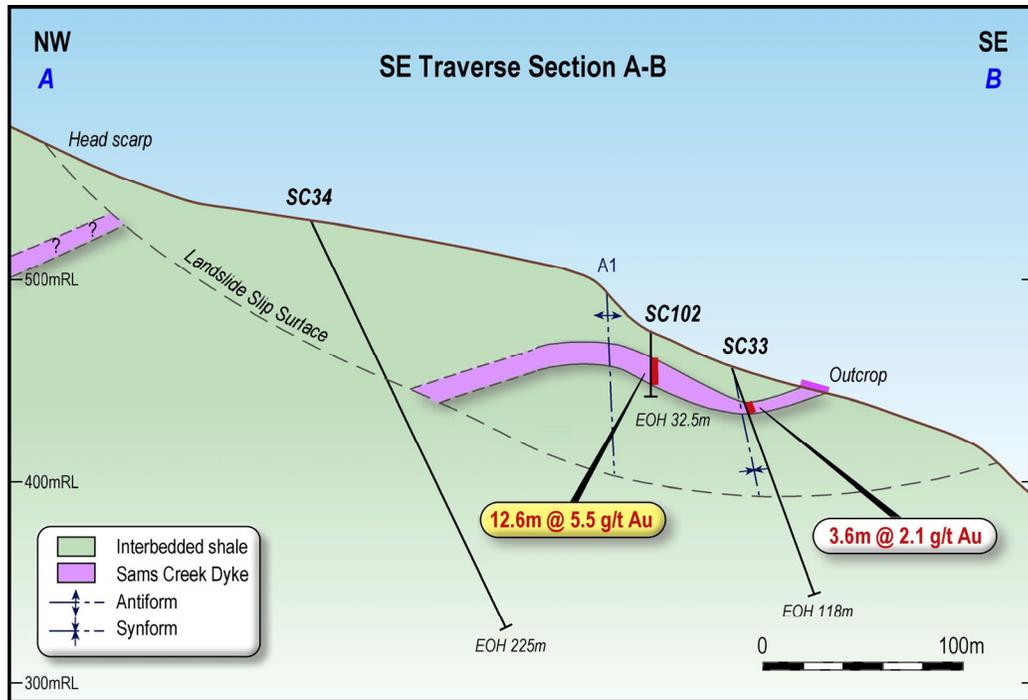

Figure 3: Cross Section C-D through SCDDH102
Results have now been received for the first three (3) holes (SCDDH100-SCDDH102) drilled at the SE Traverse prospect. Shallow, high grade gold results have been returned from all three holes including **12.6m at 5.53g/t Au from 13.4m in SCDDH102. This intersection includes 2.6m at 20.4g/t Au from 13.4m including 1m @ 38.8g/t from 14m (Figure 3 and 4)**. All significant results are tabulated below (Table 1). Results for the last hole, SCDDH103, are pending.